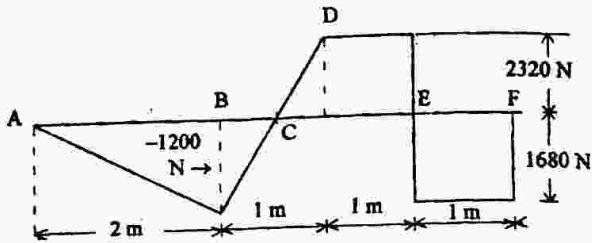

Fig.1
- (b) The Shear Force diagram is given in figure 1. Draw BMD and load diagram, stating values of all important positions.